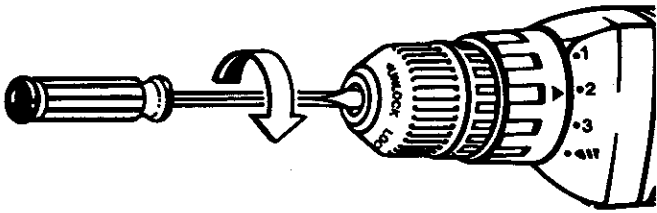

Fig. 13
- Open chuck jaws and remove allen wrench. Remove the chuck screw by turning it in a clockwise direction. *See Figure 13.* **Note:** The screw has left hand threads.